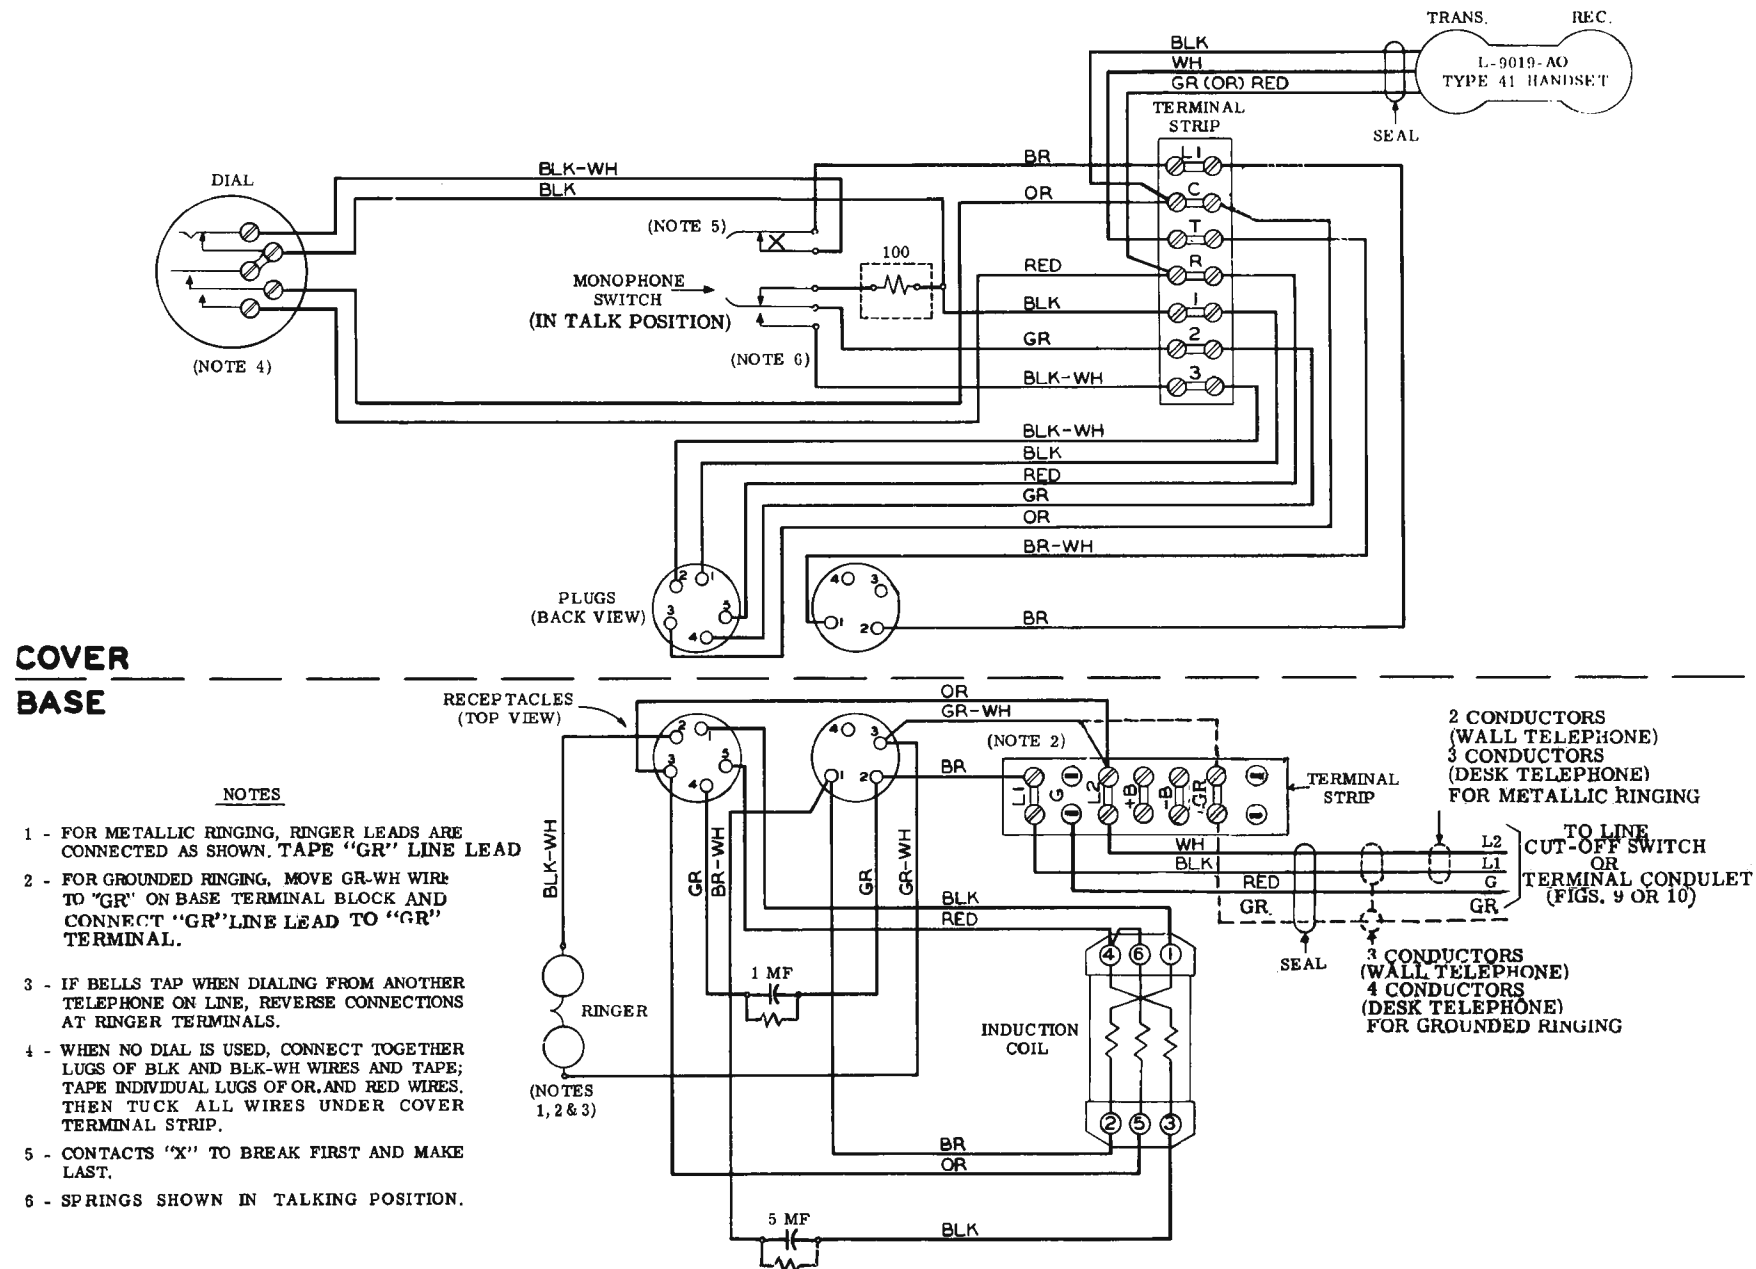

Fig. 8: Wiring Diagram—Common-Battery Instrument
- (f) In the instrument base, connect the wires just installed, to the terminals on the base terminal strip as indicated in Figure 8. Note that for grounded ringing an additional green lead is connected to terminal "GR" of the base terminal strip, the green-white ringer lead is moved to terminal "GR". (Desk type instruments are furnished wired for metallic ringing. No additional internal connections are therefore required unless grounded ringing is to be employed. In this case, it is only necessary to relocate the green-white ringer lead as described above and in Figure 8. Where metallic ringing is to be employed for the desk installation, however, make certain that the lug at the line-switch end of the green line cord lead, is properly insulated.) Replace the instrument cover on the base taking care to insert the cabling plugs into the base sockets. Make certain that the cabling between these sections does not foul up into the dial mechanism or the ringer movement.